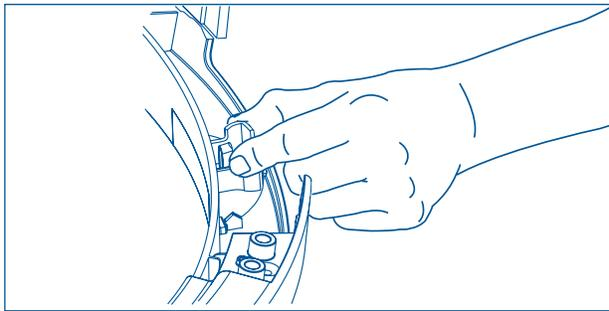

Figure 2-28.
1. Grasp the hole plug between finger and thumb and rock it upward, pivoting it away from the center of the glass, releasing the tab. (See Figure 2-28)